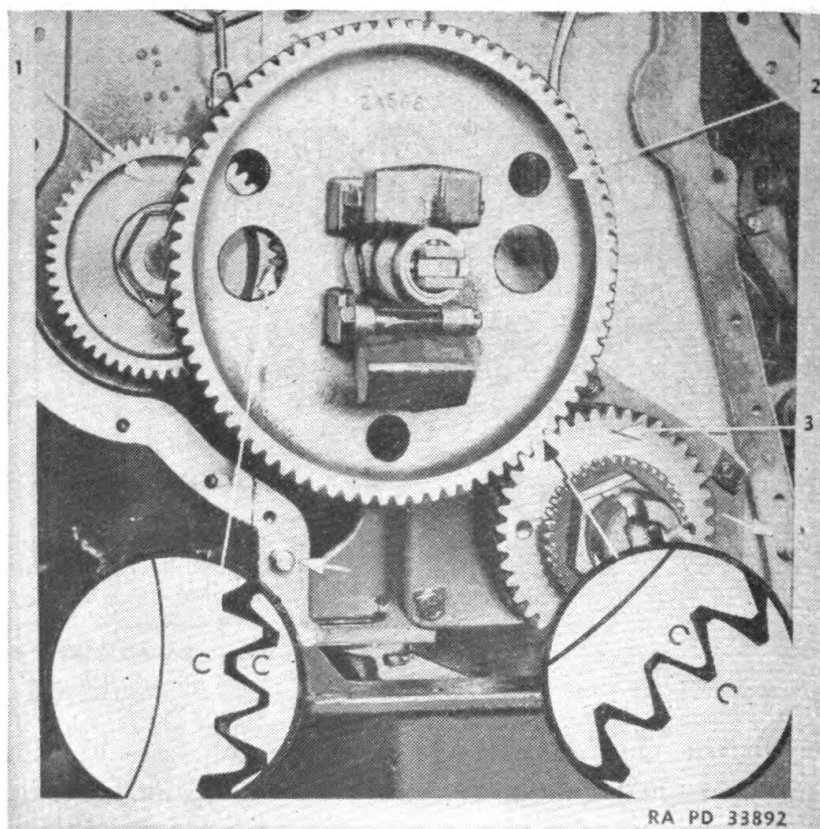

FIGURE 41.—Timing gear assembly.
b. The crankshaft gear (3) (fig. 41) is timed to the camshaft gear (2) (right insert). The accessory shaft gear (1) is timed to the camshaft gear (left insert). The remaining gears in the timing gear housing require no timing.